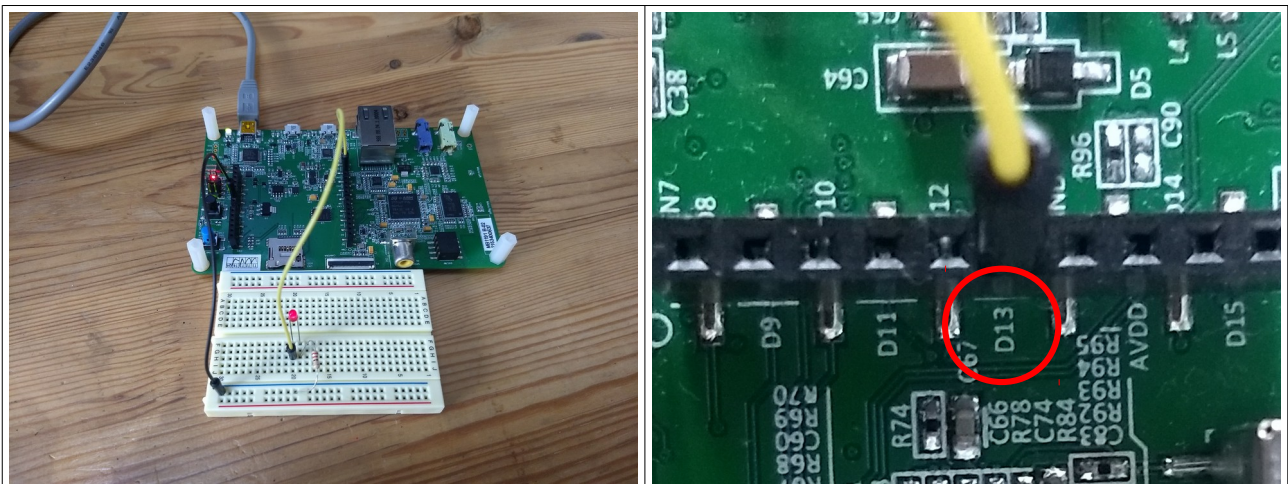

Figure 3 – The completed circuit
3. Once you have made a few 3 inch jumper wires it is time to wire up the breadboard. We will connect a 220 ohm resistor from the anode (long leg) of the LED to the positive supply rail on the breadboard, and connect the positive supply rail on the breadboard to PI_1 on the STM32F7 discovery board (marked as D13 – see Appendix A for the STM32F7 discovery board pin outs). We will then wire up the cathode (short leg) on the LED to the negative supply rail on the breadboard and the negative supply on the breadboard to the ground pin on the STM32F7 discovery board. Figure 3 shows the completed and wired up circuit – if you have any questions about this circuit ask a member of staff.